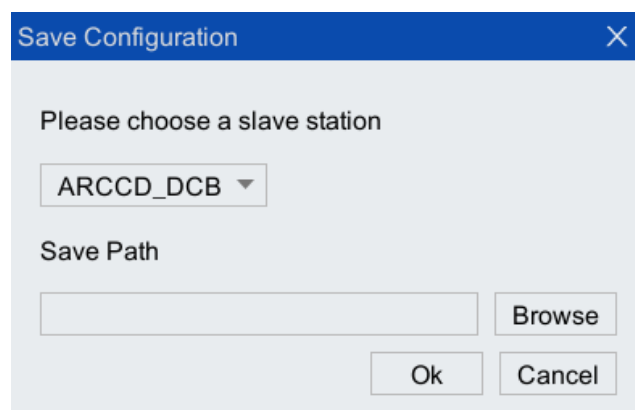

Figure 8-58 Export Configuration File
Step1. On the main interface of the teach pendant, click "System > System and Update > Export Configuration" option, and the "Save Configuration" interface as shown in Figure 8-58 pops up.